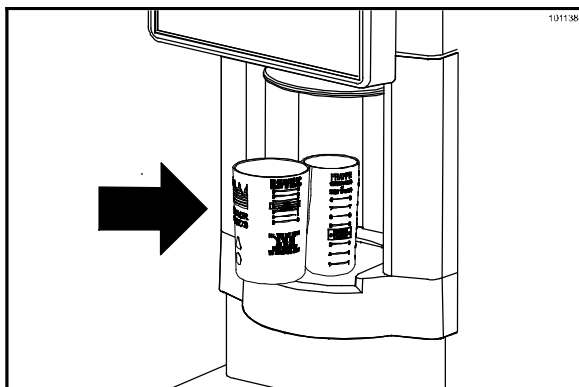

Figure 144
- Hold the small calibration cylinder under the dispensing head and press the NEXT key. (See Figure 144.)